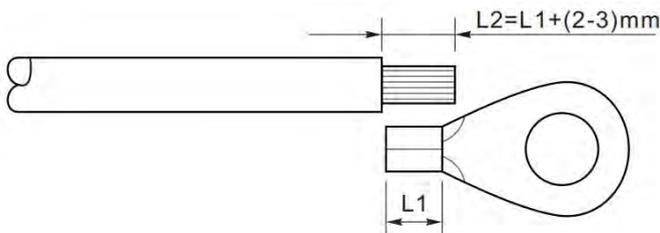

Figure 5-2 Grounding connection instruction (1)
**Step 1:** Remove the insulation layer with an appropriate length using a wire stripper shown as figure 5-2)